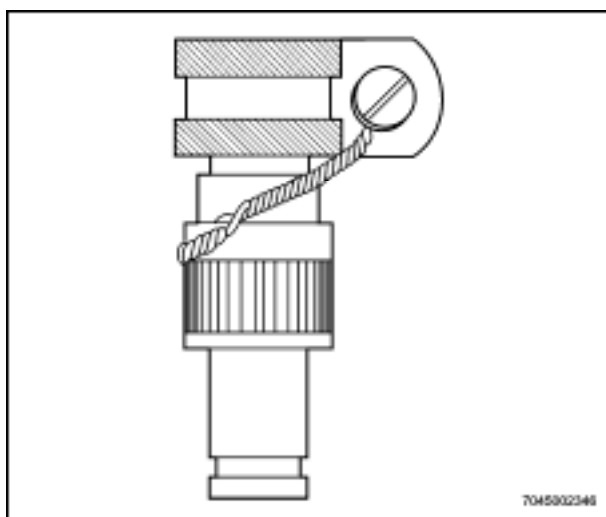

Figure 9-7 Lock Wiring Connector Using Adel Clamp
Connectors should be lock wired to fillister head screws, through safety wire tabs or drilled holes in structure provided for that purpose. If no holes are provided, connectors may be lockwired to each other, however, the maximum number of connectors that can be lock-wired in series is three (3). In those applications where RF connectors require safety wiring and physical dimensions preclude drilling safety wire holes, a cable clamp can be attached to the connector for securing the safety wire. Attach the cable clamp as illustrated in Figure 9-7.